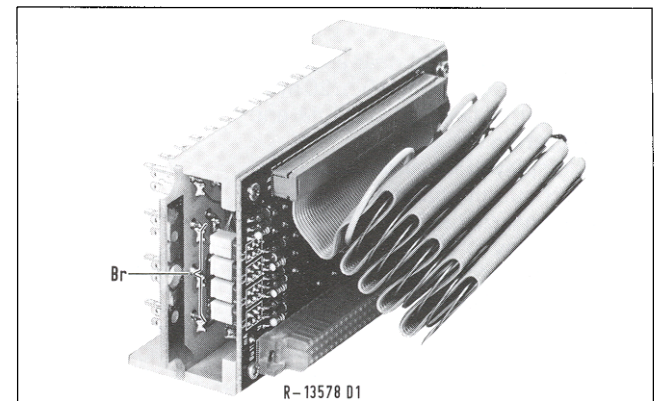

Fig. 5.12 Position of the plug-in jumpers
- Undo the rear panel. Now the plug-in jumpers are accessible on the circuit (see Fig. 5.12).
- Replug jumpers (see Fig. 5.12).